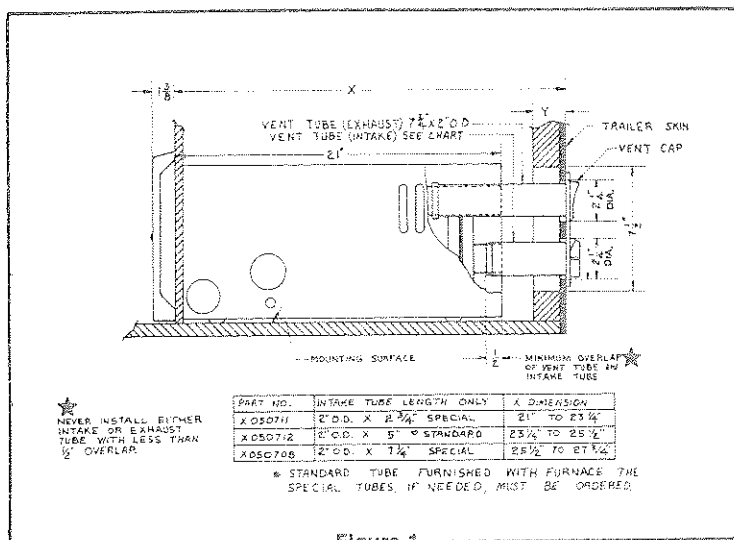

Figure 1
These furnaces will accommodate an installation depth from 21" to 27 3/4", depending on the intake vent tube length you select. (See Figure 1.)
The furnace cabinet must extend through the coach cabinetry 1 3/8" as shown in Figure 1. The 1 3/8" extension must be held in order to assure that the front grille will properly attach to the furnace cabinet. Adequate clearances must be maintained around furnace cabinet so that the unit will be accessible for servicing.
6. Determine "X" dimension as shown in Figure 1.
7. Determine "Y" dimension as shown in Figure 1.
10. Refer to the chart in Figure 1 and select the range for which the "X" dimension falls. The intake tube length directly to the left of the selected range is the length required. **NOTE:** The 7 3/4" length exhaust tube assembly will accommodate all approved installation depths - only the intake tube must be ordered when needed. Under no circumstances should the standard 5" intake tube be cut or altered to adapt to the 21" - 23 1/4" range.
**WARNING!** The exhaust and intake tubes must overlap a minimum of 1/2" to insure safe operation (see Figure 1). All air for combustion must be drawn from the outside atmosphere. Combustion air must not be drawn from the living area. All exhaust gases must be vented to the outside atmosphere; therefore, insure that the vent cap and tube assemblies have been properly installed.
3. Attach vent cap assembly to outer skin of coach using the (4) screws provided. Do not install the vent cap upside down. The words 'Suburban' and 'Dayton, Tenn.' must be installed right side up.